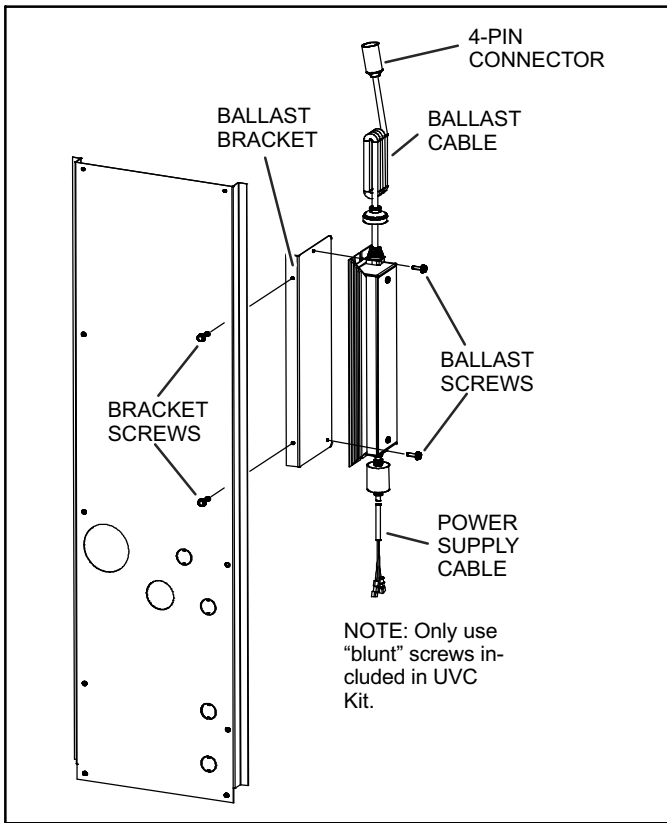

Figure 3. Install Using Ballast Bracket
2. If the rooftop unit does not include the disconnect box, install the ballast bracket to the front wall of the rooftop unit (see figure 3) using pre-punched mounting holes. Then install ballast on the ballast bracket.